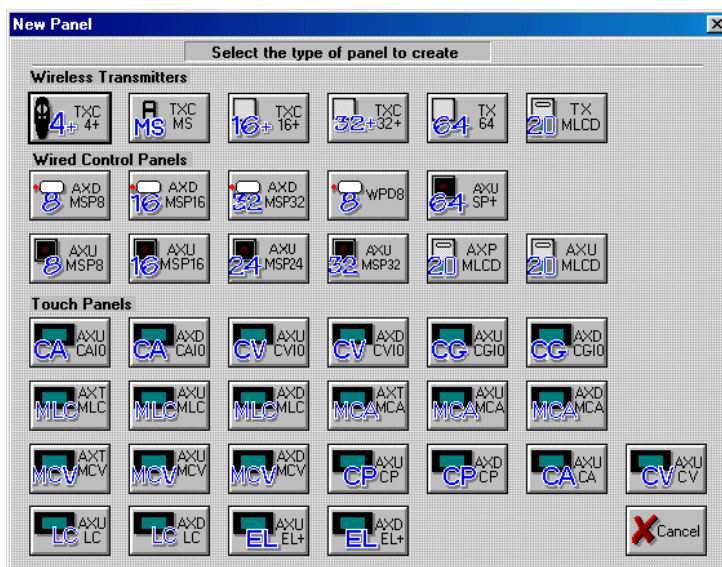

FIG. 4 New Panel dialog
1. Click File > New to open the New Panel dialog (FIG. 4).